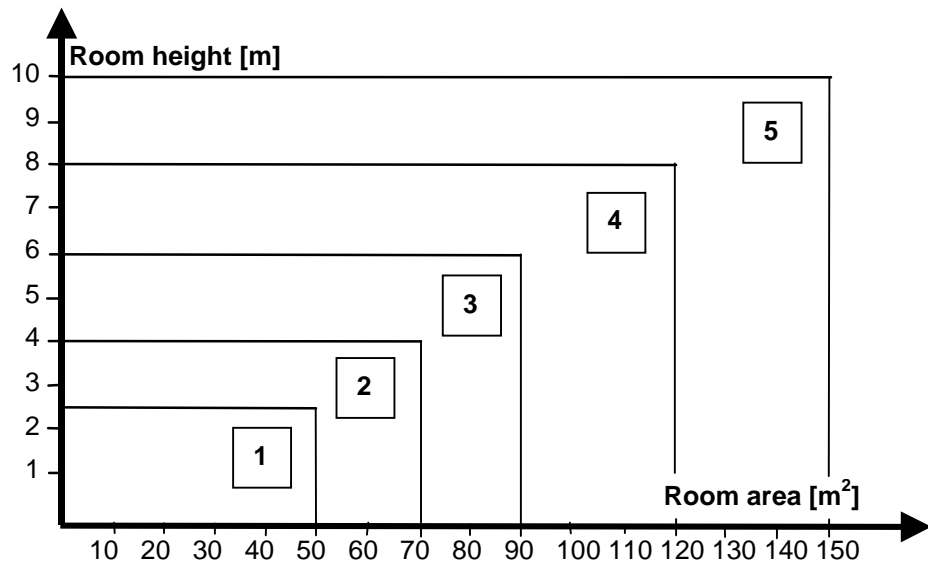

Fig. 5 Zone factor for air exchange < 7 times/h
Firstly, using Figure 5, determine the zone factor on the basis of the room area (not to be confused with the monitoring area per detector) and room height. By means of this zone factor it is possible to read off the number of mats required in Table 4.
1. Zone factor according to Figure 5 -> 4